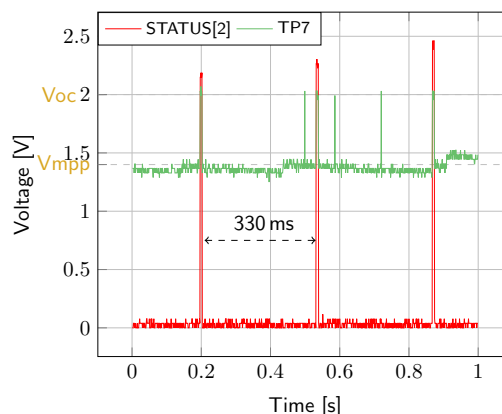

Figure 3: **TP7** and **STATUS[2]** while energy is extracted from **TP7** (**BATT** under **Vovch**)
- **TP7**: Regulated at **Vmpp**, which is a voltage equal to the open-circuit voltage (**Voc**) times the MPP ratio defined in Table 4. **Vtp7** equals **Voc** during MPP evaluation (see Figure 3). Note that **Vtp7** must be higher than 380 mV to coldstart.
- **STATUS[2]**: Asserted each time the AEM40940 performs a MPP evaluation (see Figure 3).